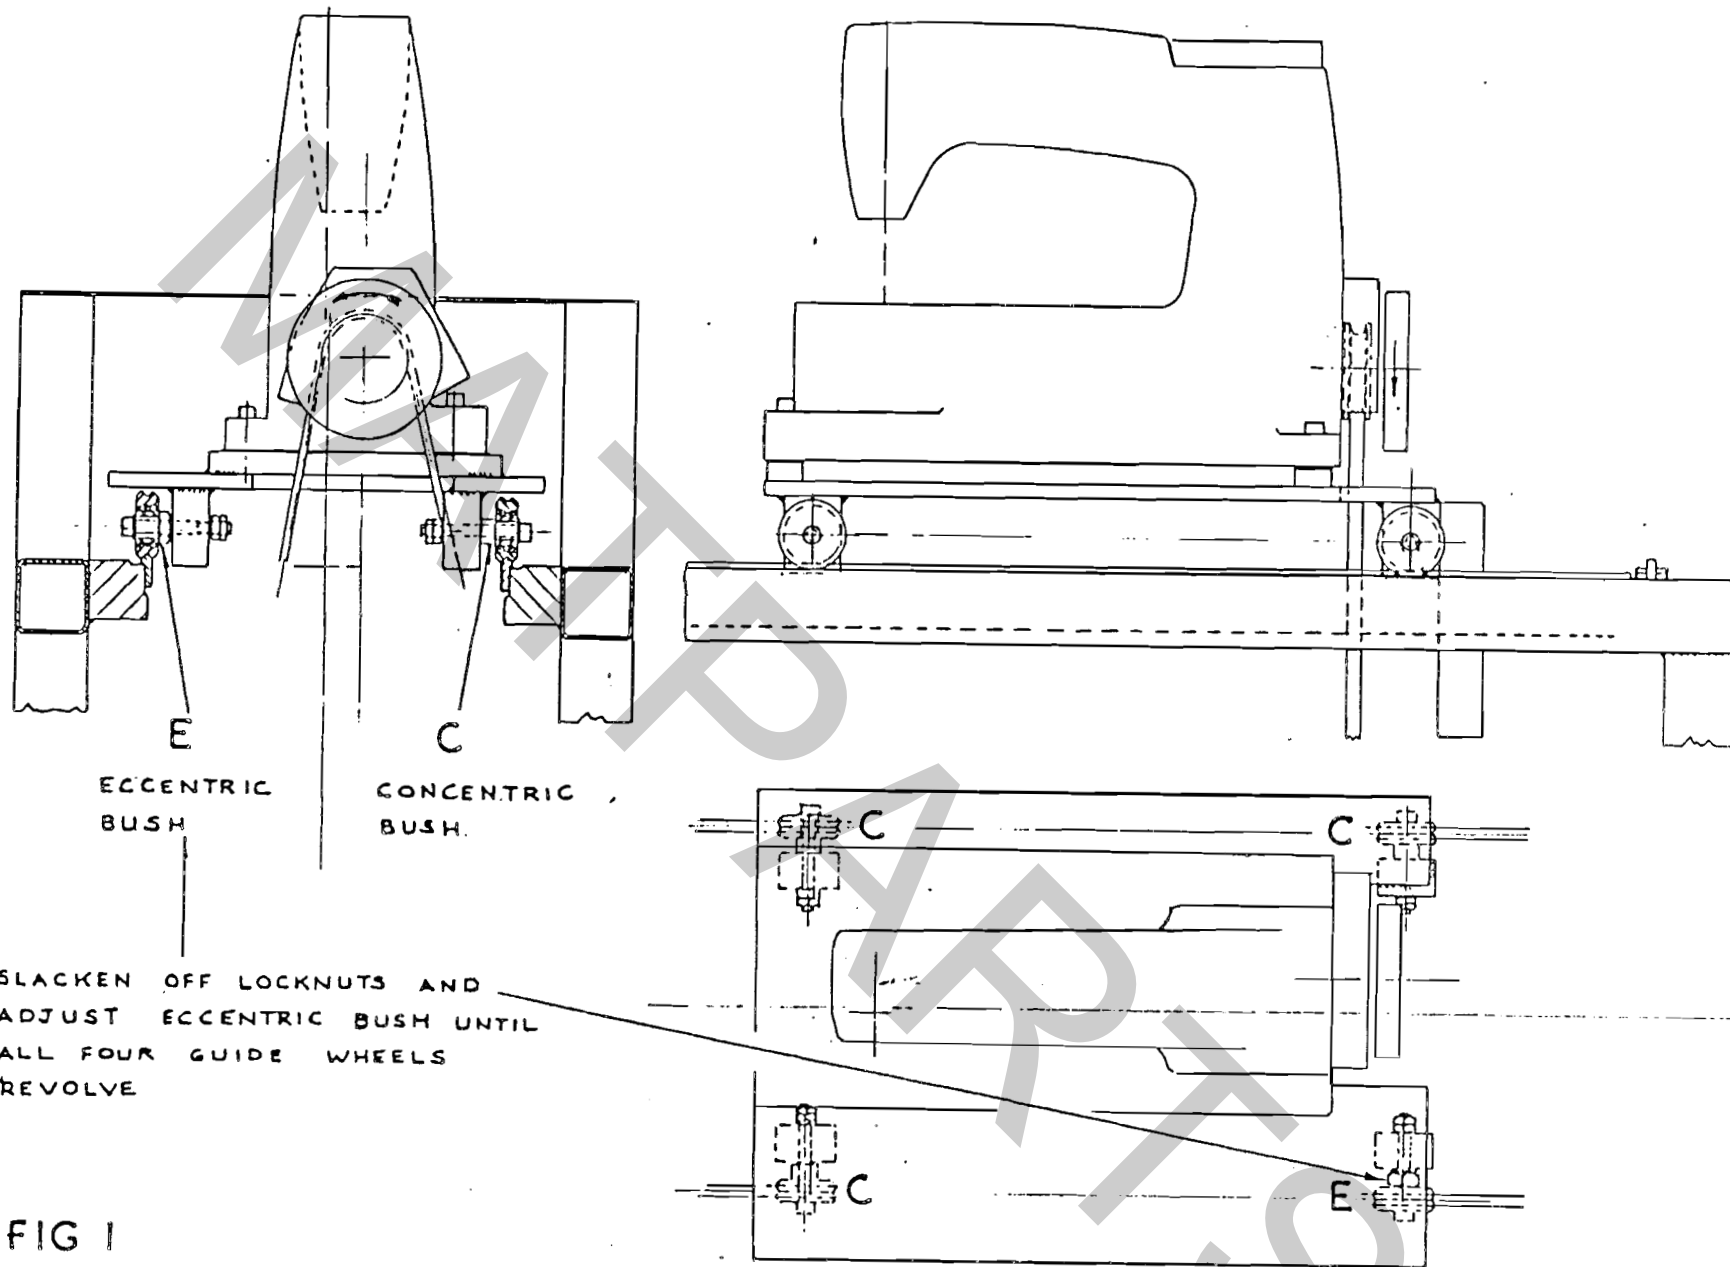

FIG 1
- Fig. 1. Sewing Head Slide
Check that the electrical supply is correct for the machine supplied, and that the connections are correct to produce the direction of rotation shown in FIG.1.